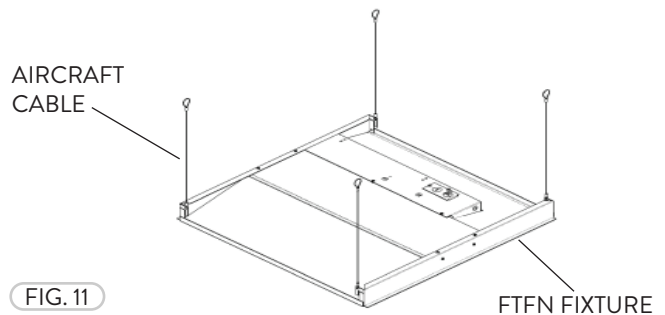

FIG. 11
- 1 The FTFN fixture has Mounting Tabs at all four corners each with holes that can be used for Suspended Mounting. Place the Aircraft Cable at all (4) Mounting Tabs and secure in place as needed (Fig. 11).